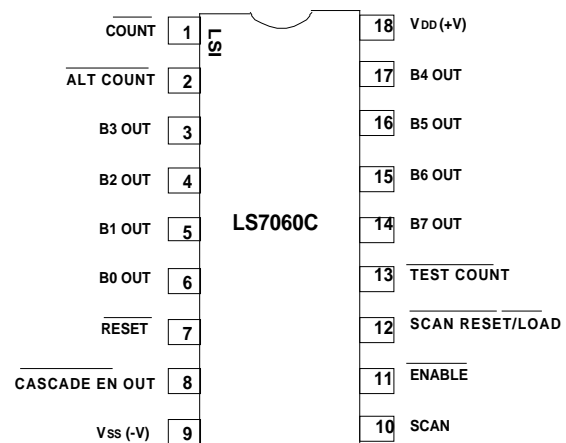

FIGURE 1
- LS7060C (DIP), LS7060C-S (SOIC) - See Figure 1